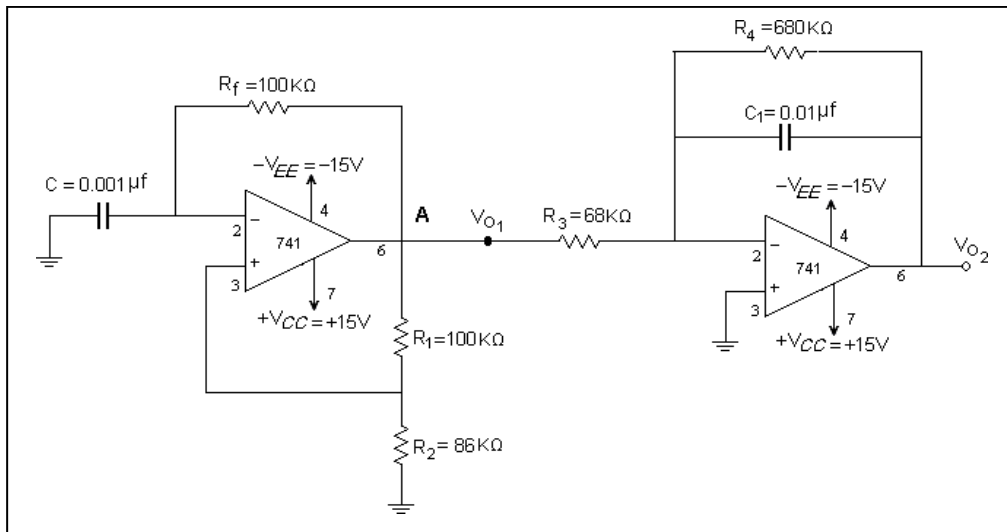
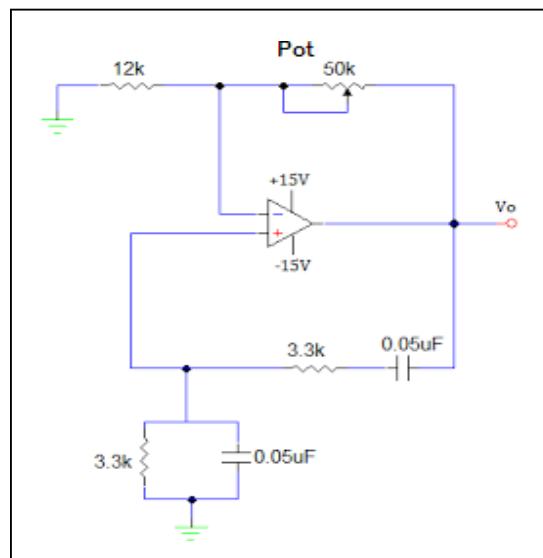

Fig 1 Function Generator Circuit
Fig 2 Sine Wave Generator Circuit
Function generator generates waveforms such as sine, triangular, square waves and so on of different frequencies and amplitudes. The circuit shown in Fig1 is a simple circuit which generates square waves and triangular waves simultaneously. Here the first section is a square wave generator and second section is an integrator. When square wave is given as input to integrator it produces triangular wave.
2. Obtain square wave at terminal A and Triangular wave at V_{o2} as shown in Fig 1 and sine wave output at V_o of Fig 2.